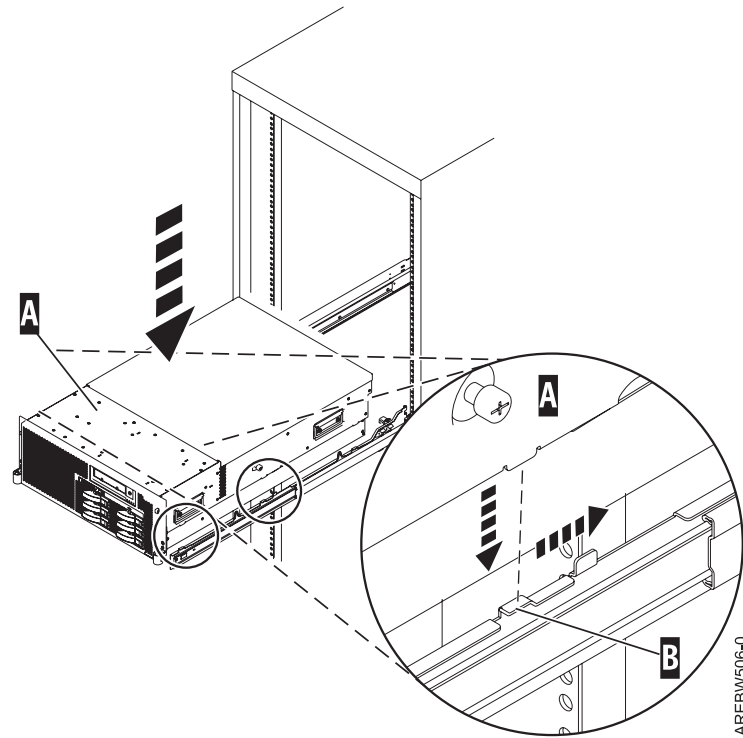

Figure 33. Place system onto the rails
8. Extend the inner rails by pulling the rails out. They should be extended from the frame as the rails shown in Figure 33.
9. Using three people, grasp the two handles located on each side of the system drawer and place the system onto the inner rail as shown in Figure 33.